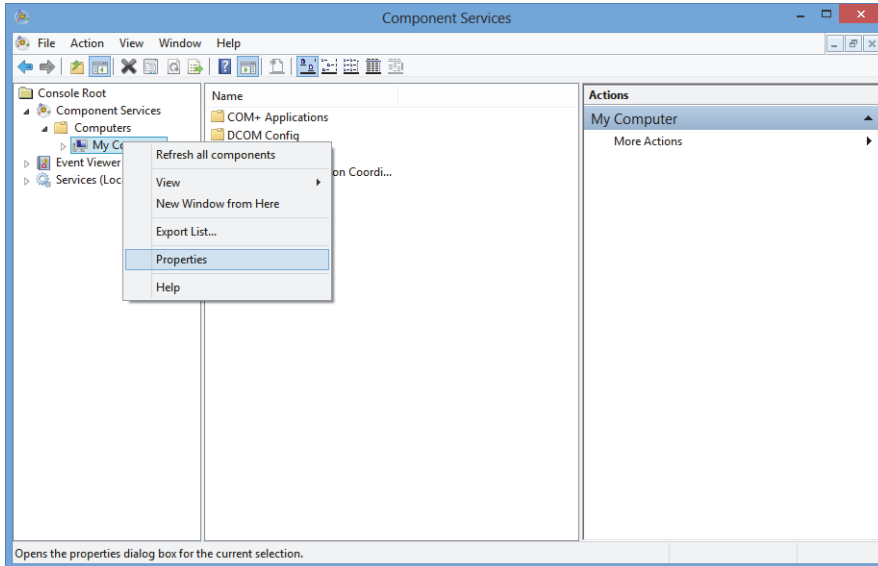

Figure 2-4 The Component Services window
4. In the **Component Services** window (see Figure 2-4 on page 32), access your computer properties: